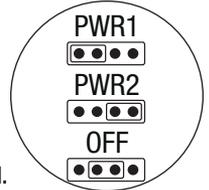

Fig. 1
2. Ensure all output jumpers [PWR1] - [PWR8] are placed in the OFF (center) position (*Fig. 1, pg. 3*).
4. Set each output [OUT1] - [OUT8] to route power from Input 1 or 2 (*Fig. 1, pg. 3*).